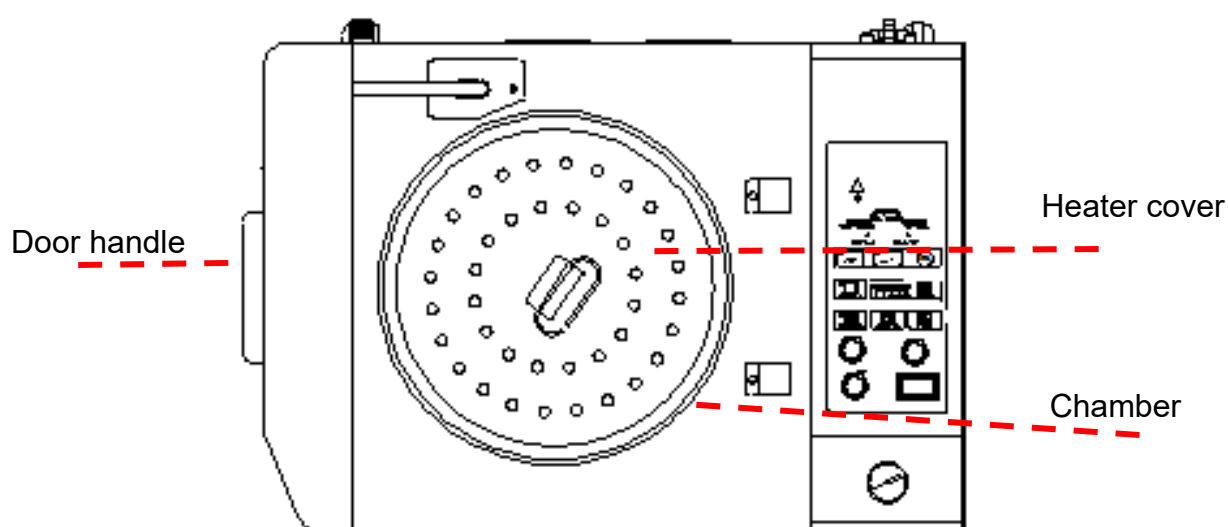

Figure 4
C. Install the heater cover as Figure 4.